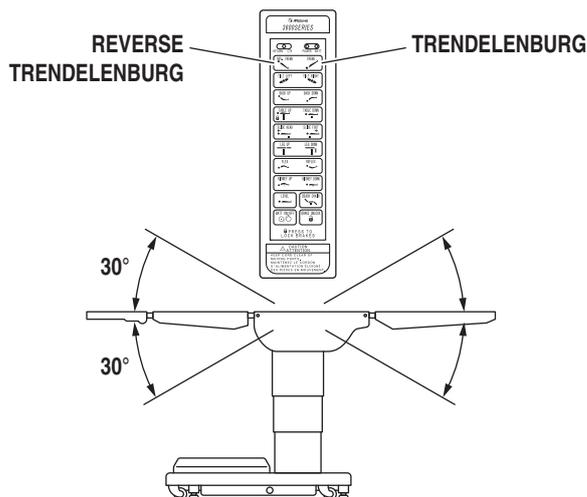

Figure 2-7. Trendelenburg Positioning
b. Trendelenburg To place the table in a Trendelenburg (head down) position, press the TREND button (figure 2-7). To place the table in a reverse Trendelenburg (head up) position, press the REV TREND button. Trendelenburg positioning of up to 30° may be obtained.